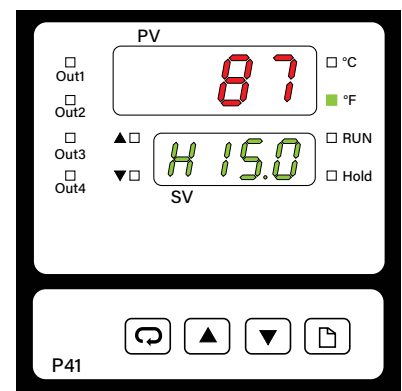

Figure 23
4. The lower green display will show the percentage (%) output to the gas valve from the controller. (Example: *H 15.0* means 15%). Use the ▲▼ (UP & DOWN keys) to change the percentage of gas going to the main burners. (See Figure 23).